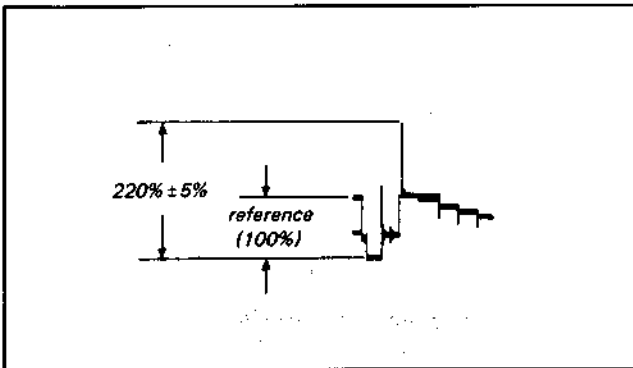

Fig. 4-4-16. White clip adjustment
- (1) Supply the VTR with the colour bar signal and set up the E-E mode.
- (2) Connect the oscilloscope to collector of Q34.
- (3) Adjust RV10 so that the signal tip (white peak) is $220\% \pm 5\%$. (See Fig. 4-4-16.)